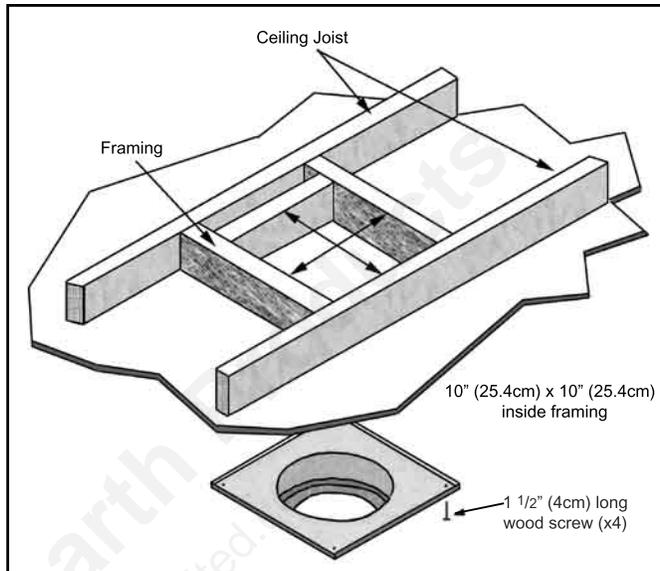
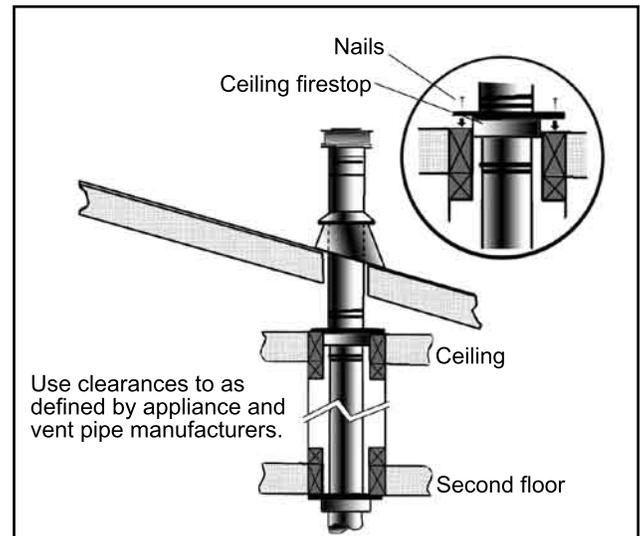

Figure 11: Wall Framing for 10" (25.4 cm) x 10" (25.4 cm) Hole for Vertical Installation.
Figure 15: Multi-Story Vent Pipe Installation.
STEP 3. To install the Round Support Box/Wall Thimble in a flat ceiling, cut a 10" square hole in the ceiling, centered in the hole drilled in Step 2. Frame the hole as shown in Figure 11.
- (1) For multi story installations. A ceiling firestop is required at the second floor, and any subsequent floors (see Figure 15). The opening should be framed to 10" (25.4 cm) x 10" (25.4 cm) inside dimensions, in the same manner as shown in Figure 11.
- (2) Any occupied areas above the first floor, including closets and storage spaces, which the vertical vent passes through, must be enclosed. The enclosure may be framed and sheetrocked with standard building materials. However consult the appliance manufactures installation instructions for the minimum allowable clearance between the outside of the vent pipe, and the combustible surfaces of the enclosure. Do not fill any required air spaces with insulation.